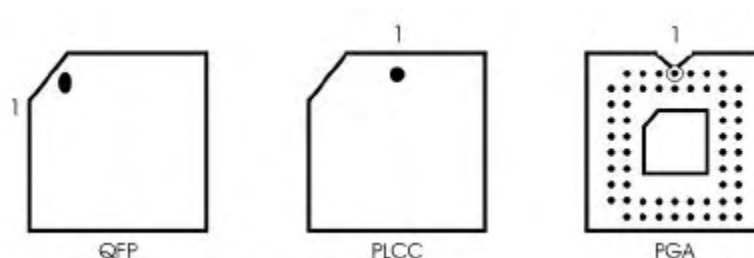

Figure 47. Pin Variations
2. Connect the adapter to the pod. Pin 1 can be marked in various ways. For example, you might see a beveled corner, the number one, or a V-shaped notch (Figure 47).